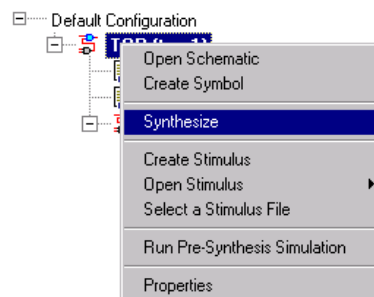

Figure 29 - Launching Synplicity from Libero IDE
1. In Libero IDE, right click on the *top* on the Design Hierarchy tab and select **Synthesize** (Figure 29).